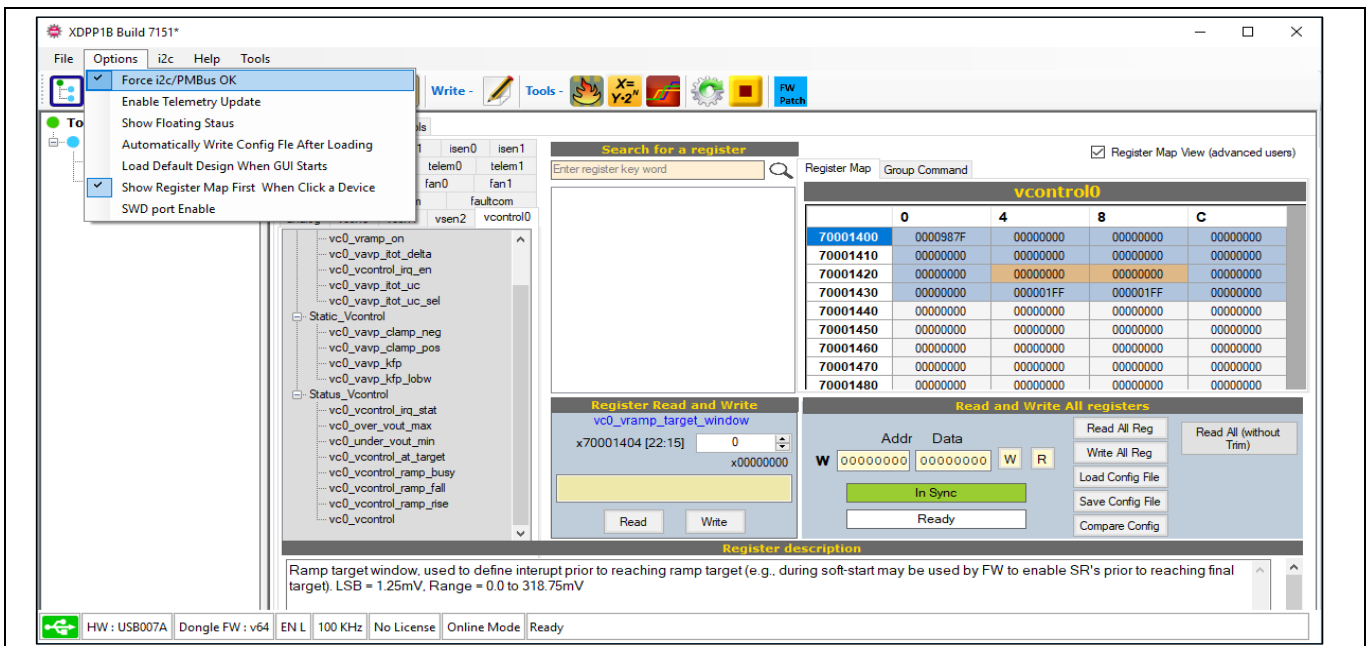

**Figure 12 Write to device operation**
7. Select **File > Open Board Design** to reload the design file to the device shown in Figure 11 to open the .pcd file. The GUI tool will show a pop-up window (Figure 12). Click **Write to Device 0x10** to write the program into the RAM of the device